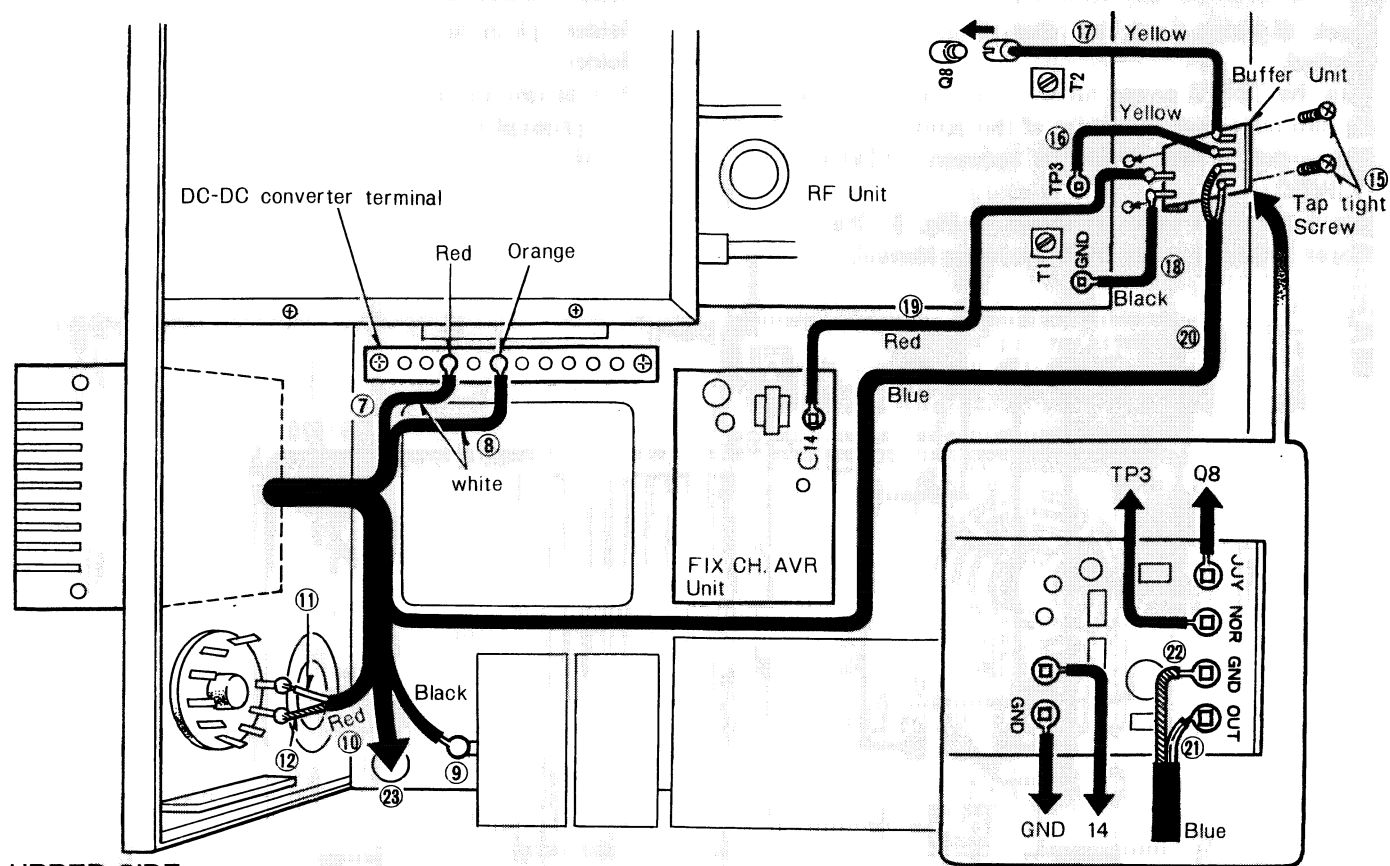

Fig. 2
6. Locate the DC-DC converter terminal board (See fig. 2).
9. Solder the black solid wire to the chassis ground lug (See fig. 2)
11. Solder the center conductor of this cable to pin 1 of the remote VFO socket. (See fig. 2.)
23. Feed the remaining coaxial cable, red solid wire, and white/black solid wire through the chassis as shown in Fig. 2.